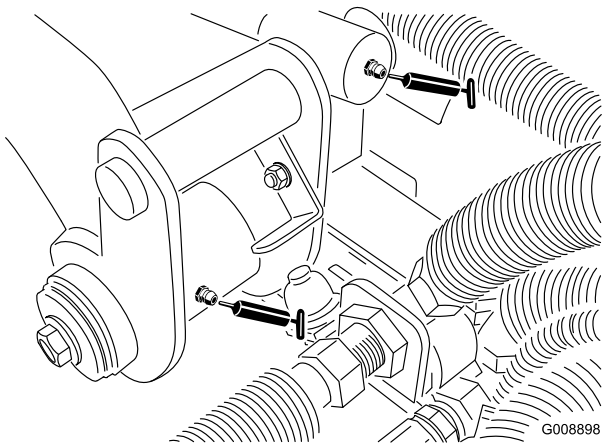

Figure 31
- 2 rear lift-arm pivots and lift cylinder (Figure 31)